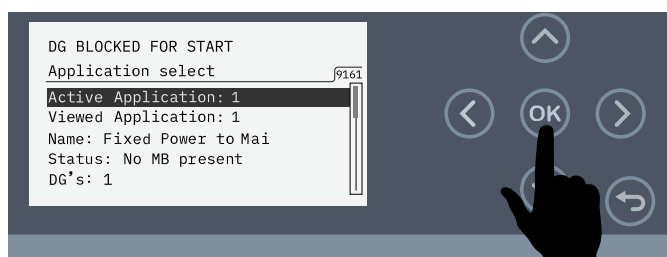

Figure 78. Select Active Application
7. Make sure **Active Application** is highlighted (Figure 78), then press the OK button.